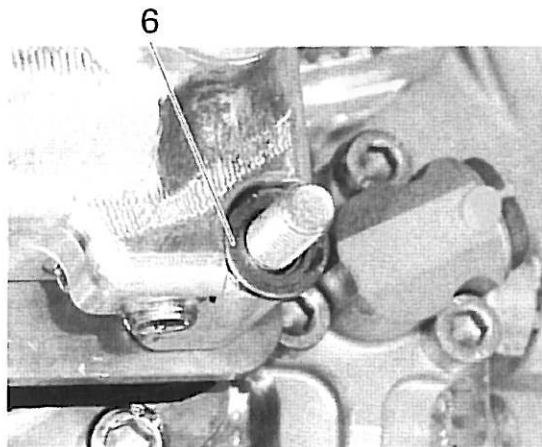

Figure 21
15. Apply Loctite 243 to each stud bolt about two to three threads above the washers (item 6). See Figure 21.